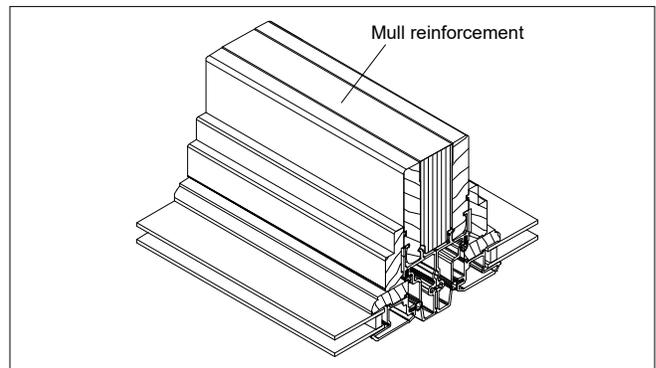

Figure 3
3. Insert mullion reinforcement board between frames and fasten to interior wood frame members with 1/2" x 1/2" 16 gauge staples spaced every 4" (102). See figure 3.